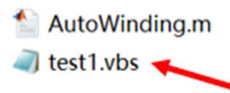
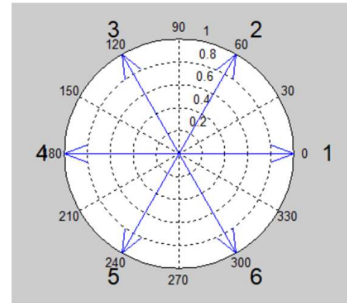

Fig. 2
Fig. 3
2. Run the .m file. The slotA.vbs will generate in the same folder of .m file (Fig. 2). The slot-star vectogram will be plotted (Fig. 3) and the slot-phase arrangements will be displayed in the command window (Fig. 4). **Close the MATLAB after you have finished this step.**